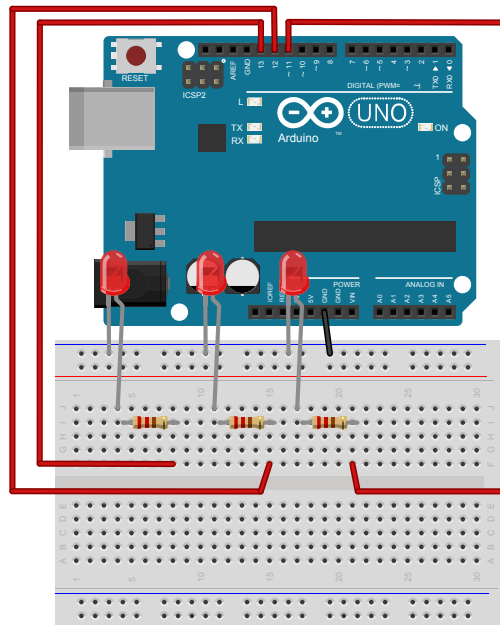

Figure 1: Multiple LED
1. Try to make a function with this structure to vary each LED shown in Figure 1: